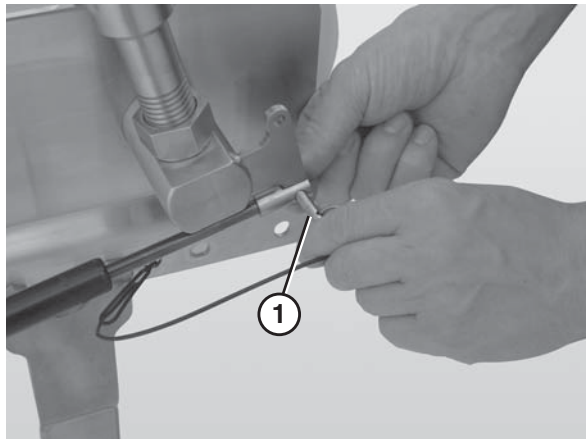

Figure 81
- Remove the pull pin (Figure 81, item 1).